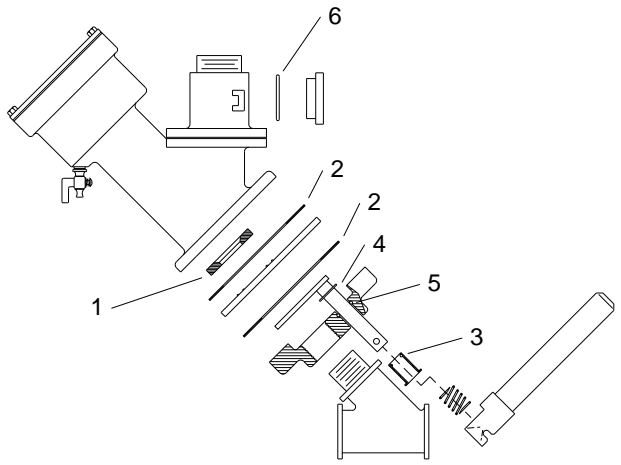

Figure 7
- (-) Service kit, lower segment, Figure 7 .....22389